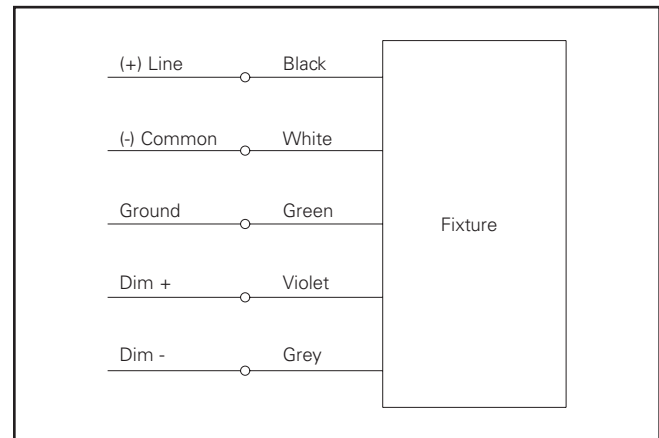

Figure 3.
3. Make wire connection in outdoor rated junction box. Use wire nuts or other approved connectors to wire fixture per wiring diagram. (Figure 3.)